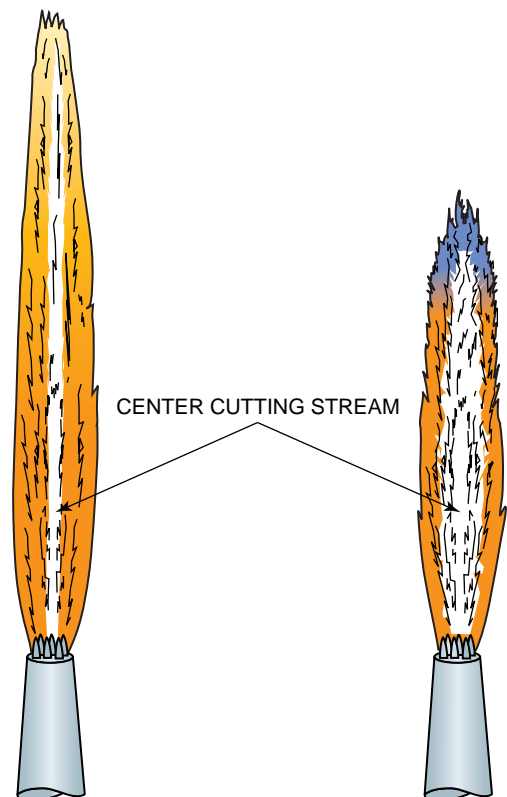

FIGURE 6-32 A clean cutting tip will have a long, well-defined oxygen stream.
7. Increase the pressure slowly and readjust the flame as you watch the length of the clear cutting stream in the center of the flame, Figure 6-32.
The center stream will stay fairly long until a pressure is reached that causes turbulence disrupting the cutting stream. This turbulence will cause the flame to shorten in length considerably, Figure 6-32.